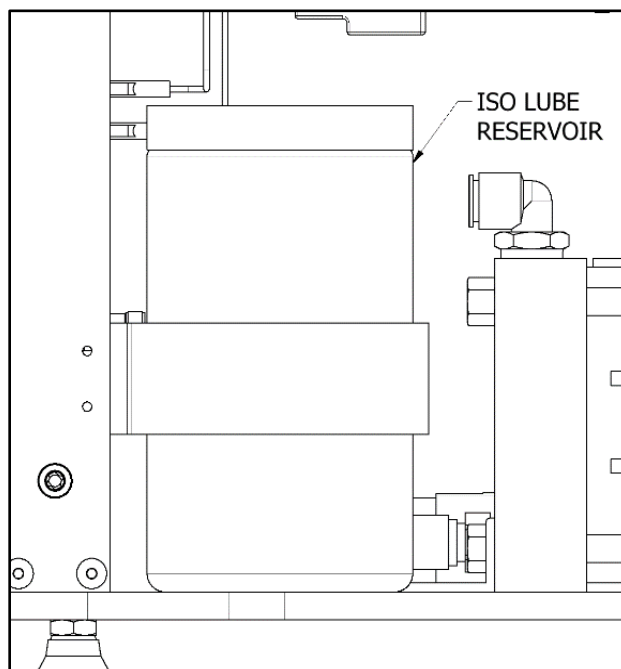

Figure 26: ISO Lube Reservoir
1. Remove the Lube Reservoir from its support, unscrew the Lid and remove the Check Valve from the Suction Hose. See Figure 26.